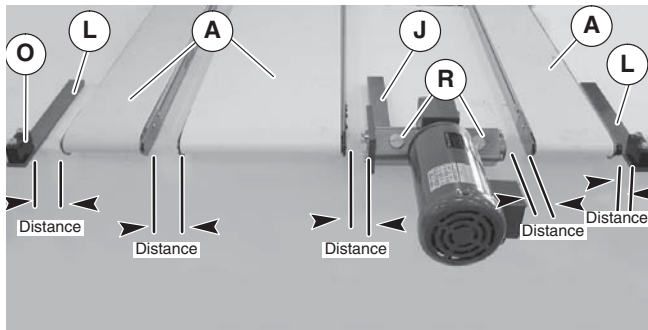
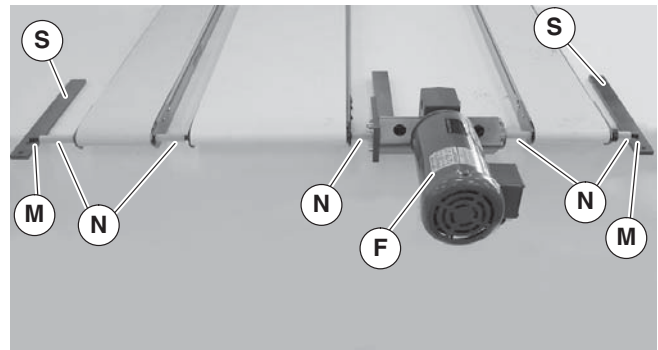

Figure 19
Figure 21
- Align conveyors between gearmotor support assembly (Figure 19, item J) and bearing support assembly (L).
Do not secure the conveyors (Figure 19, item A) to the mounting surface.
- Cut shaft cover (Figure 21, item N) into pieces to match each distance (Figure 19) minus 1/16" (1.5 mm).
- Slide hex shafts (Figure 21, item M) through conveyors and shaft cover pieces (N) on both sides of gearmotor assembly (F) and into flex couplings.